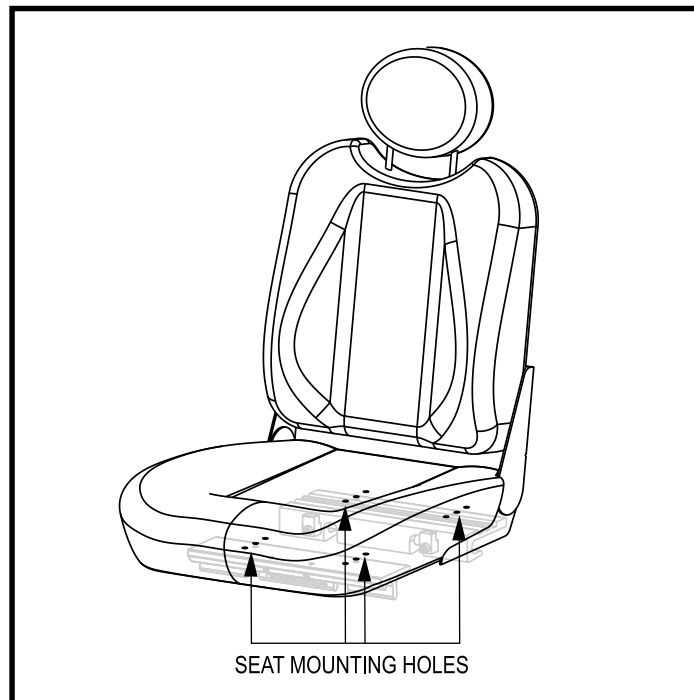

Figure 15. Seat Position Adjustment
5. Reposition the extrusions on a different set of mounting holes. You must move both extrusions the same number of holes either forward or rearward. See figure 15.